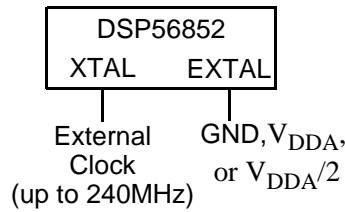

Figure 9. Connecting a High Speed External Clock Signal using XTAL
The recommended method of connecting an external clock is given in **Figure 9**. The external clock source is connected to XTAL and the EXTAL pin is held at ground (recommended),  $V_{DDA}$ , or  $V_{DDA}/2$ . The TOD\_SEL bit in CGM must be set to 1.
1. See **Figure 9** for details on using the recommended connection of an external clock driver.